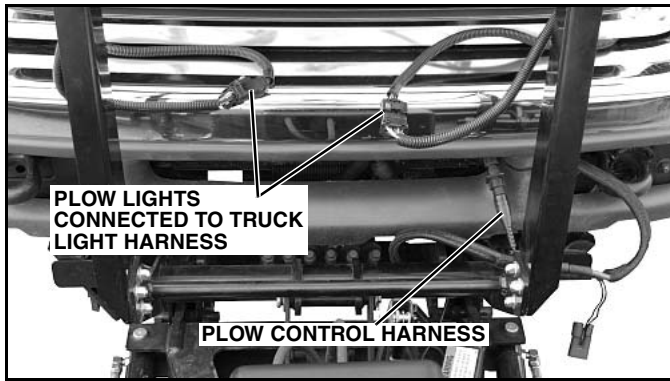

Figure 1-17
8. Plug plow light connectors into mating connectors on truck light harness (See Figure 1-17).